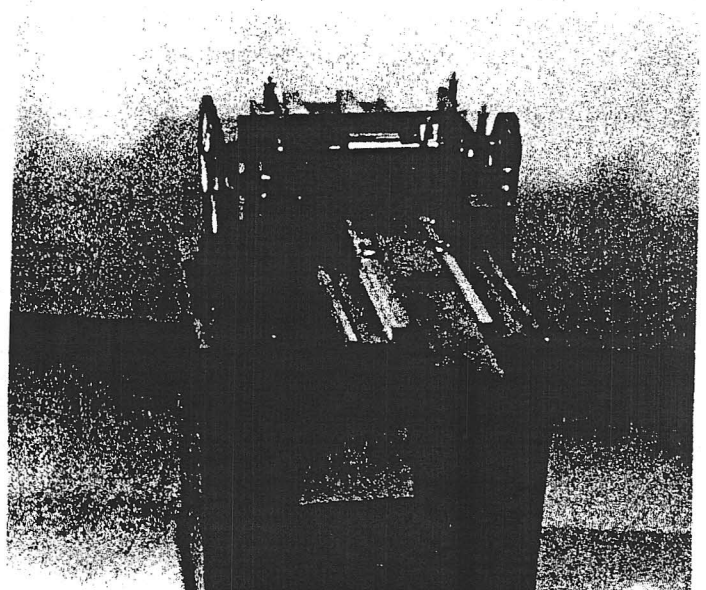

Fig. 14
4. Place guides under the cutterhead and at 90 degrees to it. Secure with clamps or bolts. (fig. 14)